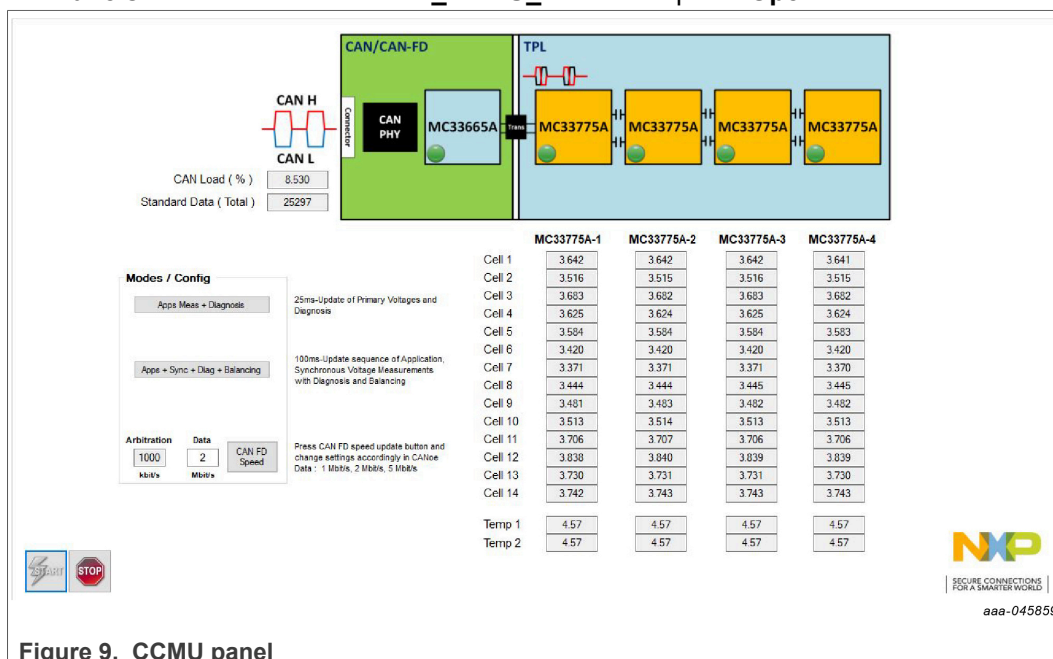

Figure 9. CCMU panel
10. As shown in CCMU panel (Modes / Config) in Figure 9, demo can run in two sequences to communicate and monitor the onboard MC33775A battery cell controllers. **Apps + Sync + Diag + Balancing** is a sequence which executes application measurements of primary cell voltages, sync measurements of both primary cell voltages and secondary cell voltages, overvoltage and undervoltage measurements along with balancing of cells for every **100 ms**. **Apps Meas + Diagnosis** is a sequence which runs for every **25 ms** to run and update application measurements of primary cell voltages with undervoltage, overvoltage measurements of four MC33775A battery cell controllers.